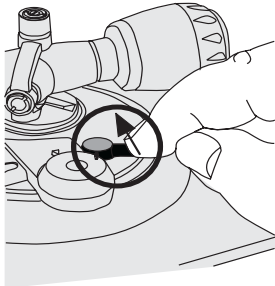

Fig. 7 Unlocking the adjustment ring
- 1 Turn the locking lever counter-clockwise (Fig. 7).